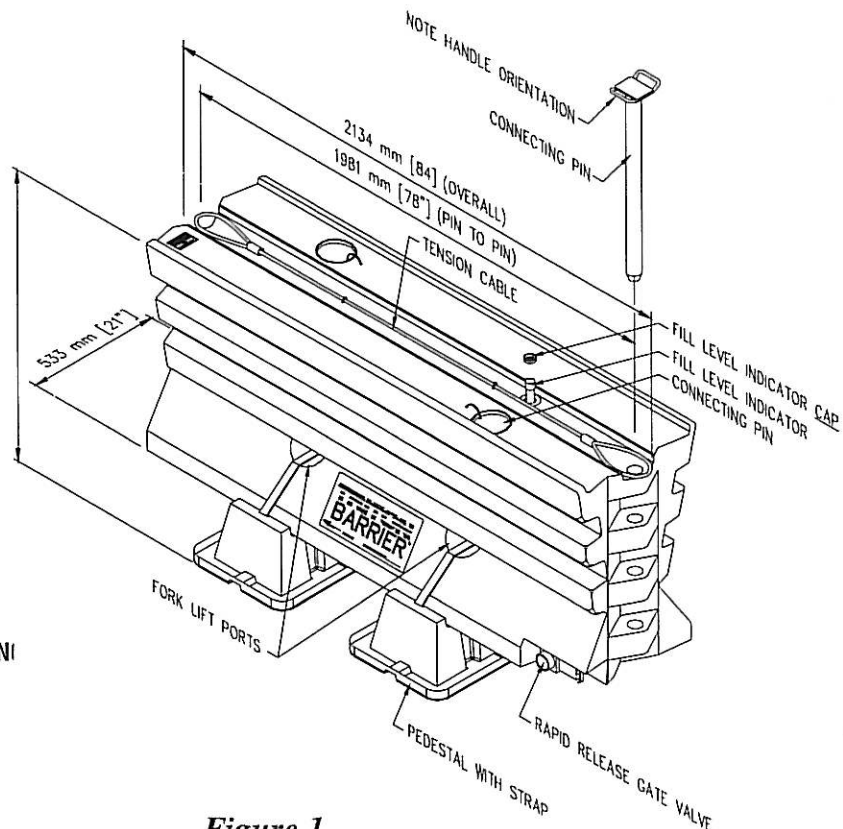

Figure 1
8. Bring the remaining four upright TRITON segments together and insert a connecting pin through the top cables and into the overlapping end knuckles at each joint. Push the pin in until it is flush with the top of the sections. Take care to orient the handle on the pin so that the handle is perpendicular to the length of the barrier. (See Figure 1 on page 4.)